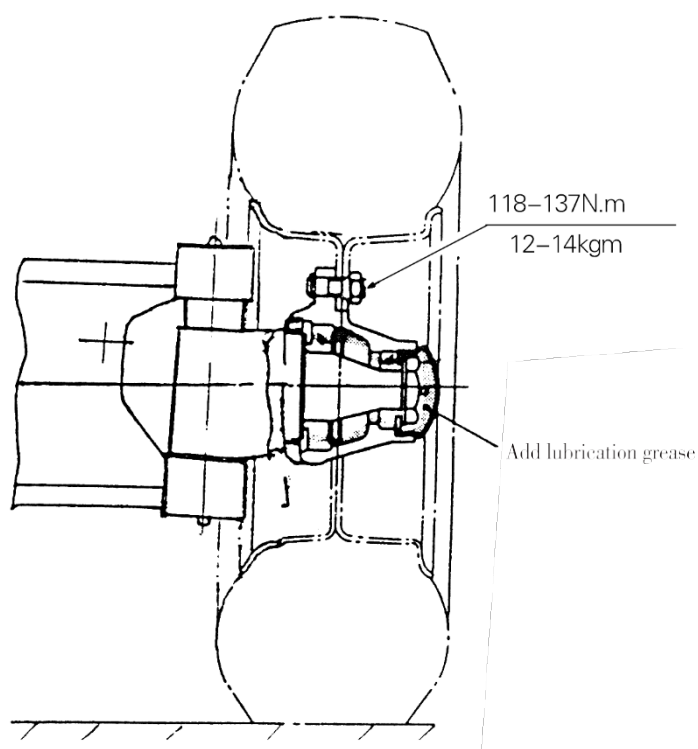

Fig.7-2 Pre-load adjustment
(1) As shown in Fig.7-2, with lubricating grease, fill up the chamber formed by wheel hubs, wheel hub bearings and wheel hub covers and coat the lips of the oil seals.